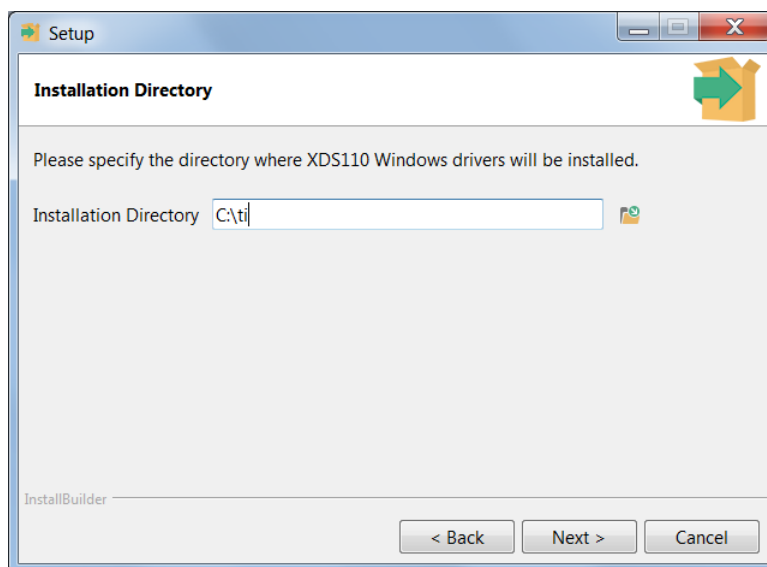

Figure 7. XDS110 Driver Installation Directory
- Specify the installation path (default is c:\ti\), and proceed with the installation (see Figure 7).